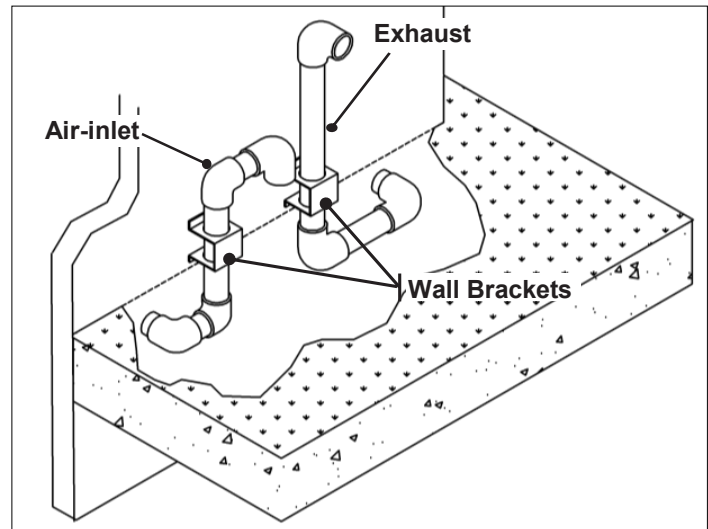

Figure 16 - Venting Below Grade
1. Excavate the site to a point where the pipes are to exit as shown in Figure 16.